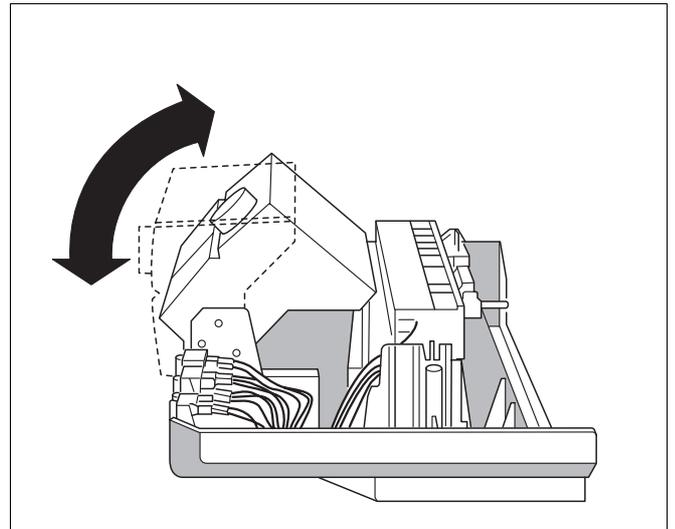

Fig. 19 Pivot the display unit into place
- Pivot the display unit into the required position (Fig. 19).